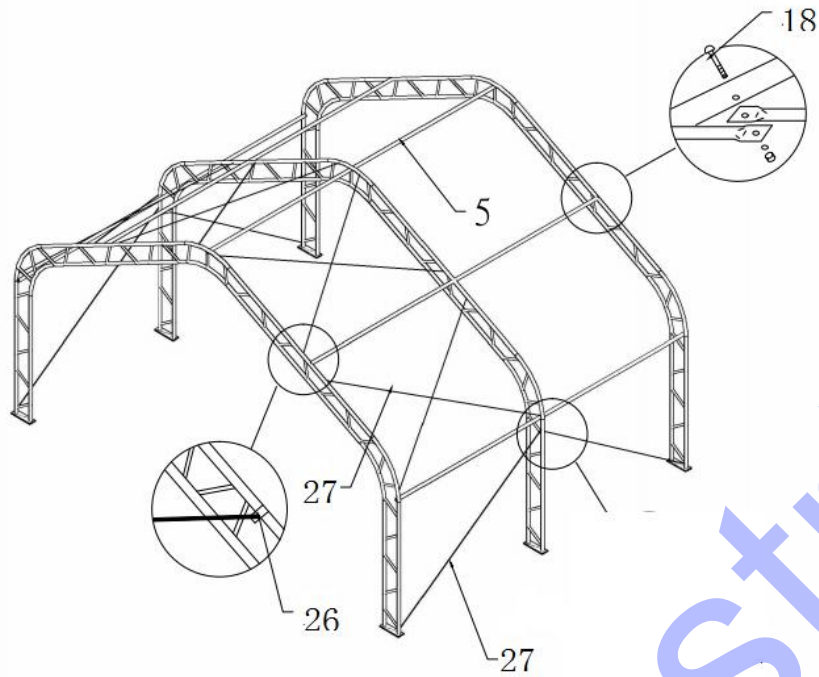

Figure 6
3.Connect Purlin(No.5) to arch by using Bolt 8\*80mm (No.18) by turns(see Figure 6),then connect the Steel wire(No.27) on top and side by using Clip(No.26) (see Figure 6).